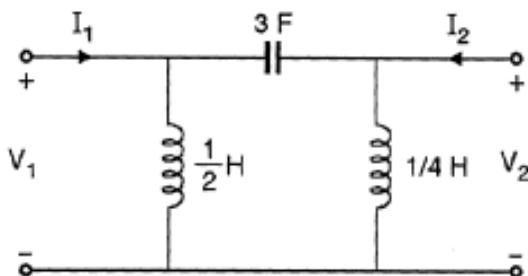

Figure 1
- c) What is the residue condition ? Show that it is valid for the network shown below in Fig. 1